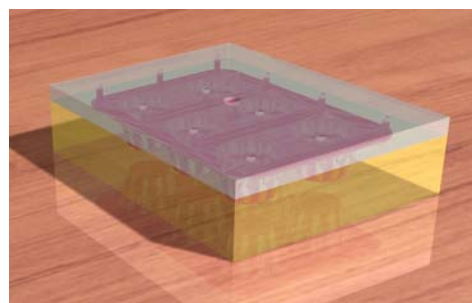

Fig. 4 Cross section through a mold assembly
9. For the solidification of food grade silicone rubber cast in the previous stage, the whole mold is introduced in the polymerization oven at about 70 ° C, for 2-3 hours. The mold assembly is shown in Figure 4.